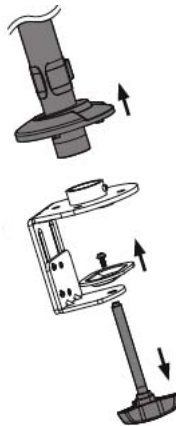

Figure 4
2. Rotate the Steel Tube counter clockwise to separate it from the C-Clamp. Remove the support plate from the clamp screw using a Phillips screwdriver, see Figure 4.